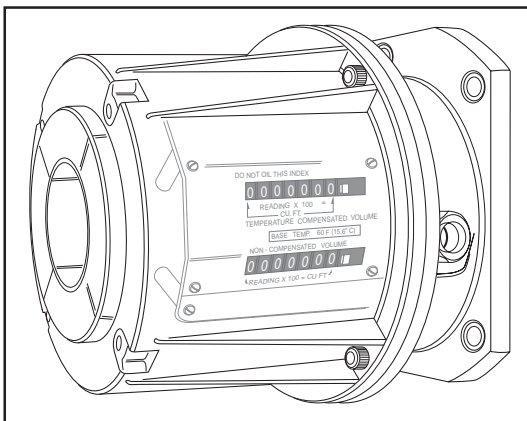

Fig. 3-3 Standard CMTC Compensator
- Standard CMTC on meter (Fig. 3-3).